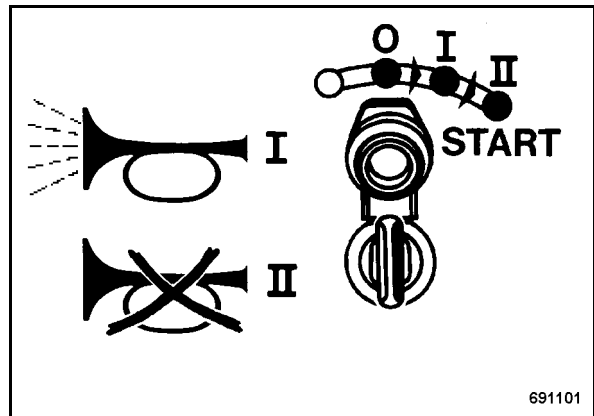

Fig. 19
- Turn the ignition key to position "I" (Fig. 19), the warning buzzer sounds.